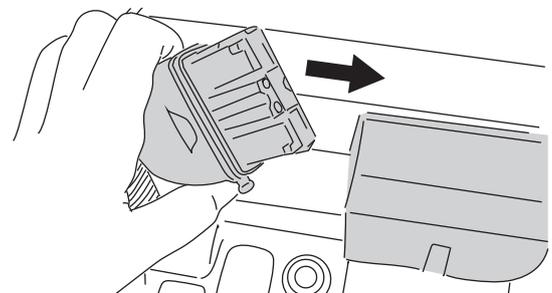

Fig.5
Connect the power cable to the battery connector of the Battery Pack.(Fig.5)
1. Remove the power cable from the Battery Pack.(Fig.5)